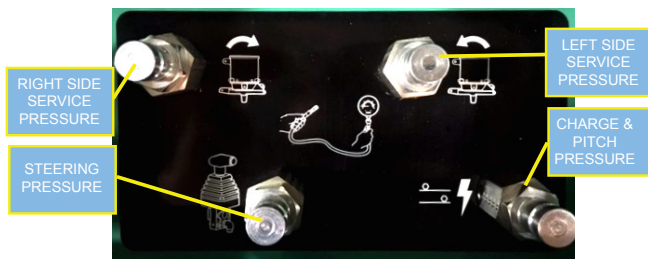

Figure 29. Pressure Test Ports Location
2. Install a 500 PSI range pressure gauge to Charge or Pitch pressure test port (Figure 29).
2. Install a 300 or 600 PSI gauge on steering pressure port (Figure 29).